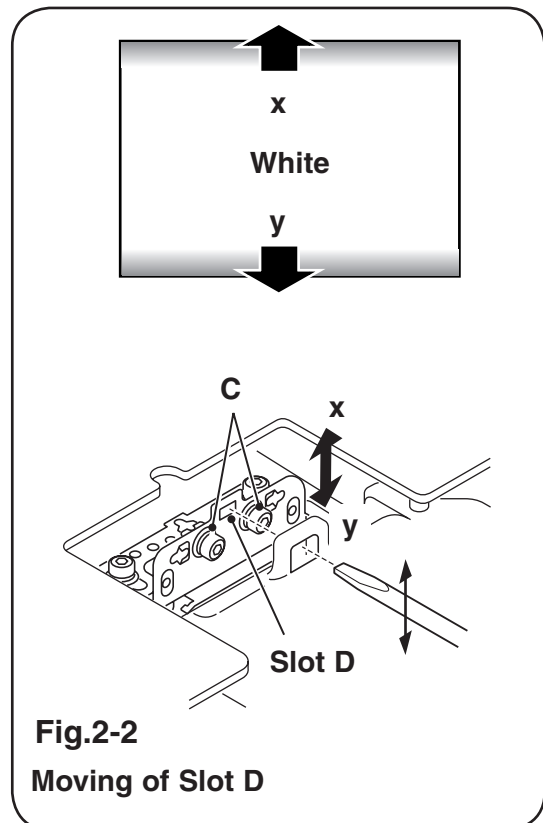

Fig.2-2
- 2) If the shading appears on the top or bottom of the screen as shown in **Fig.2-2**, loosen 2 screws **C**, and insert a slot screwdriver into the slot **D** and adjust color uniformity in white by turning a slot screwdriver up or down.